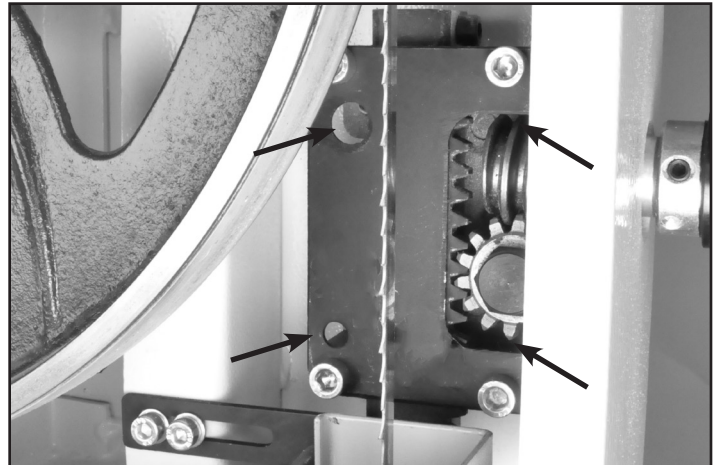

FIGURE 31
3. Open the top door and lower the blade guard all the way down to the table to access the Guide Bracket (#18E). Fig. 31.
5. There are also four Set Screws (#55E) set in the rear of the guide bracket near the corners. If the guard post needs to be angled slightly towards the front or back of the table, or even twisted on an angle, make the adjustment with these screws. Fig. 31.